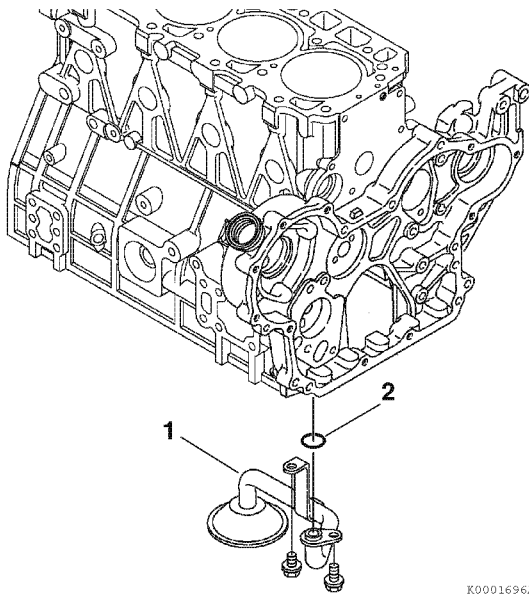

Figure 6-47
3. Remove the oil pickup tube (**Figure 6-47, (1)**) and O-ring (**Figure 6-47, (2)**).